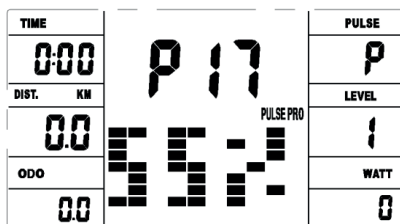
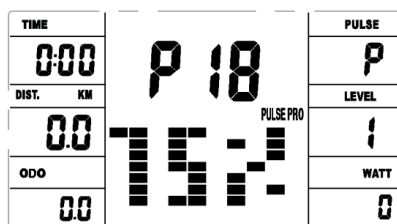
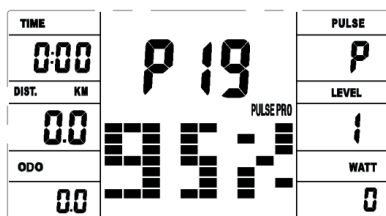

Figure 19
Figure 20
Figure 21
- A. Press the UP/DOWN button to select a heart rate control program: 55% (Fig. 19), 75% (Fig. 20), or 95% (Fig. 21). Press ENTER to confirm.